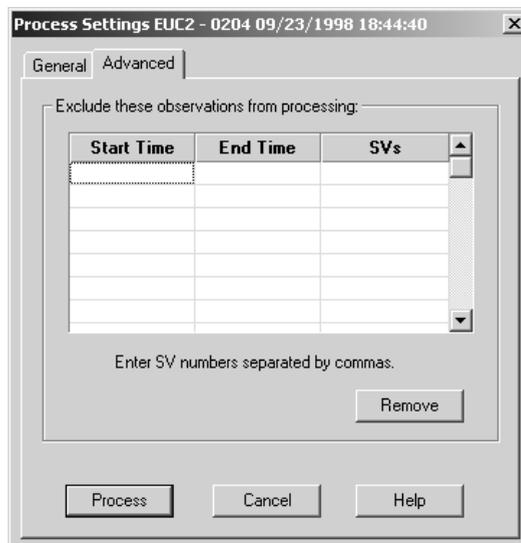

Figure 5.15. Process Settings Dialog Box — General Tab
3. Click on the **Advanced** tab to switch to the **Advanced** tab (Figure 5.15).